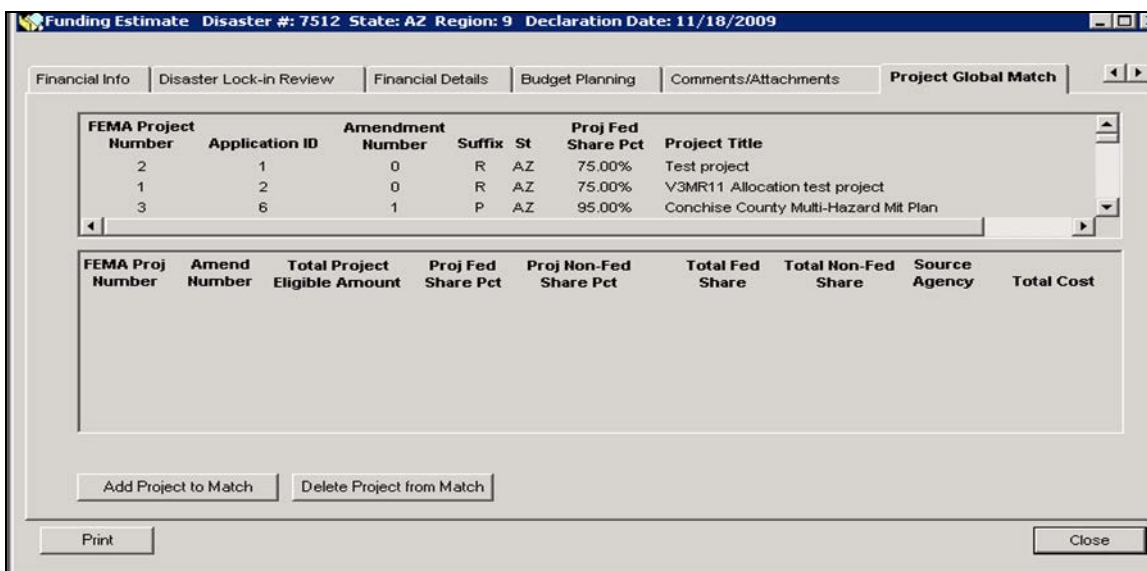

Figure 11-52: Mitigation > Funding > Estimate > Project Global Match Tab
3. Scroll to the right and click the **Project Global Match** tab. The top section of the tab lists all approved projects for the disaster (Figure 11-52).